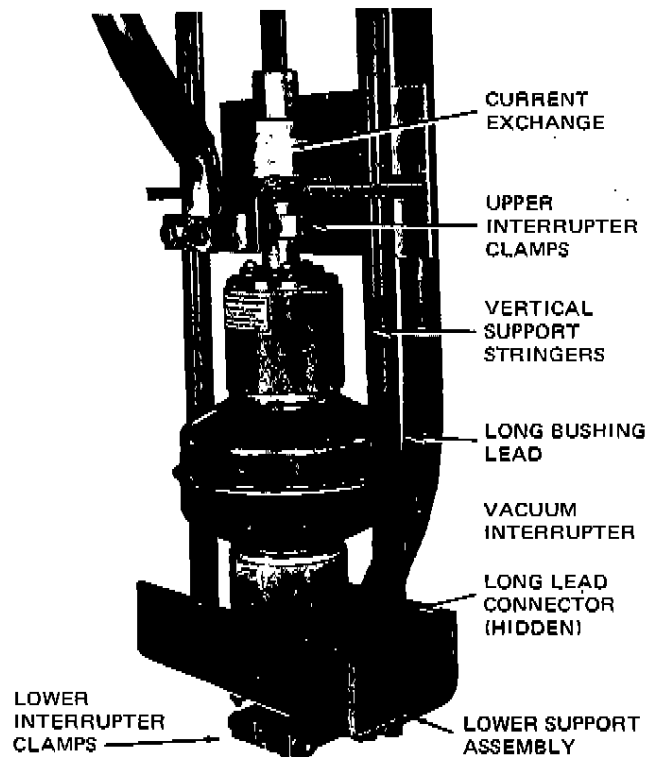

Figure 6
2. Loosen and remove the upper interrupter clamps (Figure 6). As the clamps are loosened, the contact rod will move downward due to atmospheric pressure acting on the bellows. This action can be verified by observing the movement of the scribed mark as the clamp is loosened.